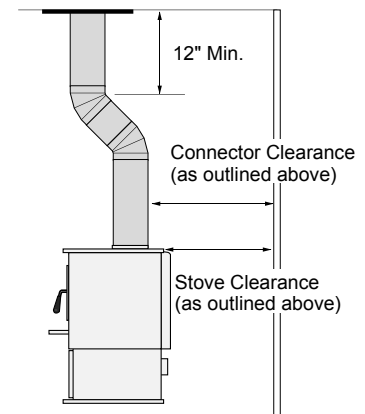

Figure 7
- If using offsets, use the connector clearance listed in Figure 7, **not the connector manufacturer's clearance.**